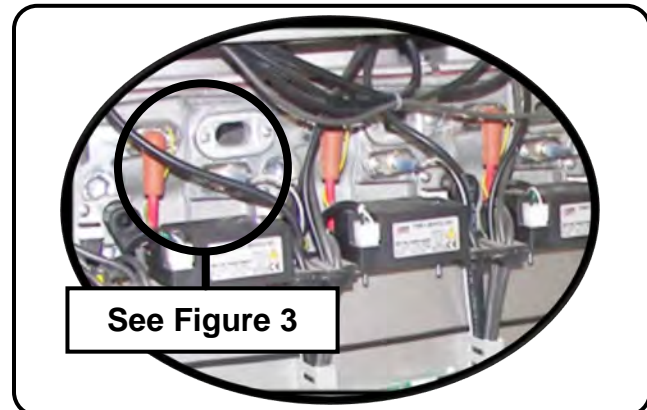
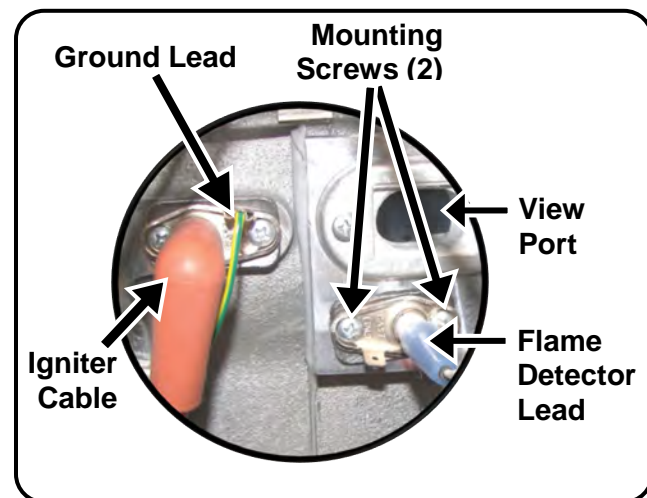

Figure 2: Electrical Connections
Figure 3: Electrical Components
6. Refer to **Figure 2** and **Figure 3** and locate the installed locations of the igniters and flame detectors. These Figures show a Modulex MLX-757 containing five (5) igniters and five (5) flame detectors.
The spark igniter for each heat module is installed to the left of the view port as shown in **Figure 3**. Remove and replace as follows:
The flame detector for each heat module is installed beneath the view port as shown in **Figure 3**. Remove and replace as follows:
The Modulex boiler is designed to automatically shut down in the absence of a flame to prevent the buildup of unburned fuel in the combustion chamber. Test the circuit by removing a flame detector lead from any of the burner sections (**Figure 3**) while the unit is running. If the unit shuts down after a few seconds, the flame detection circuitry is functional. If boiler does not automatically shut down, there is a problem with the circuit. In this case, manually shut down the boiler and contact appropriate technical help to resolve the problem.